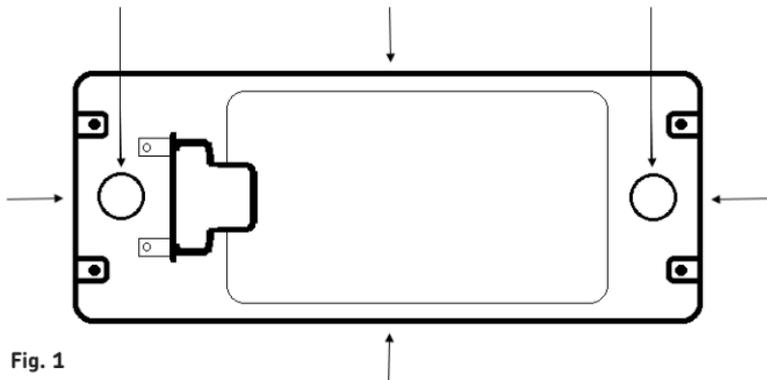

Fig. 1
- Drill out one of the 20mm drilling guides on the fitting (see Fig. 1), and fit a suitable IP rated grommet or compression gland (not included)